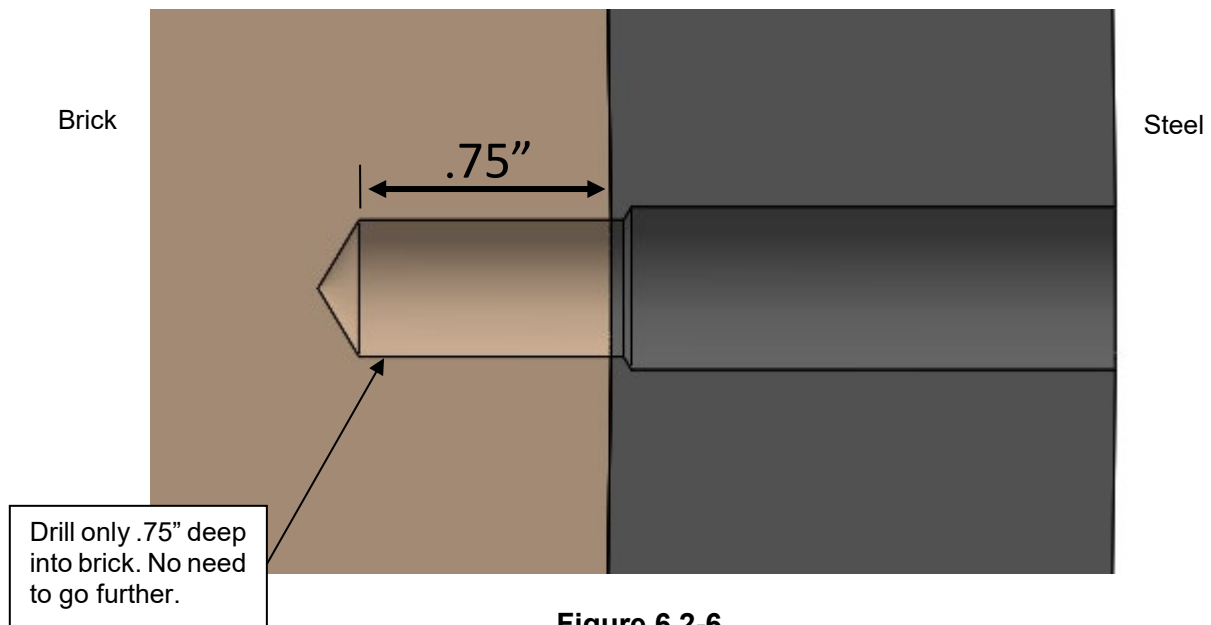

Figure 6.2-6
4. The mandrel requires a backside clearance of at least .75 inches as shown in Figure 6.2-6. Use a 3/8-inch masonry bit (not sold with kits). If using the magnet mounted drill, complete the entire drilling operation to include the brick before moving the drill. A hammer drill may be required to drill through the brick.